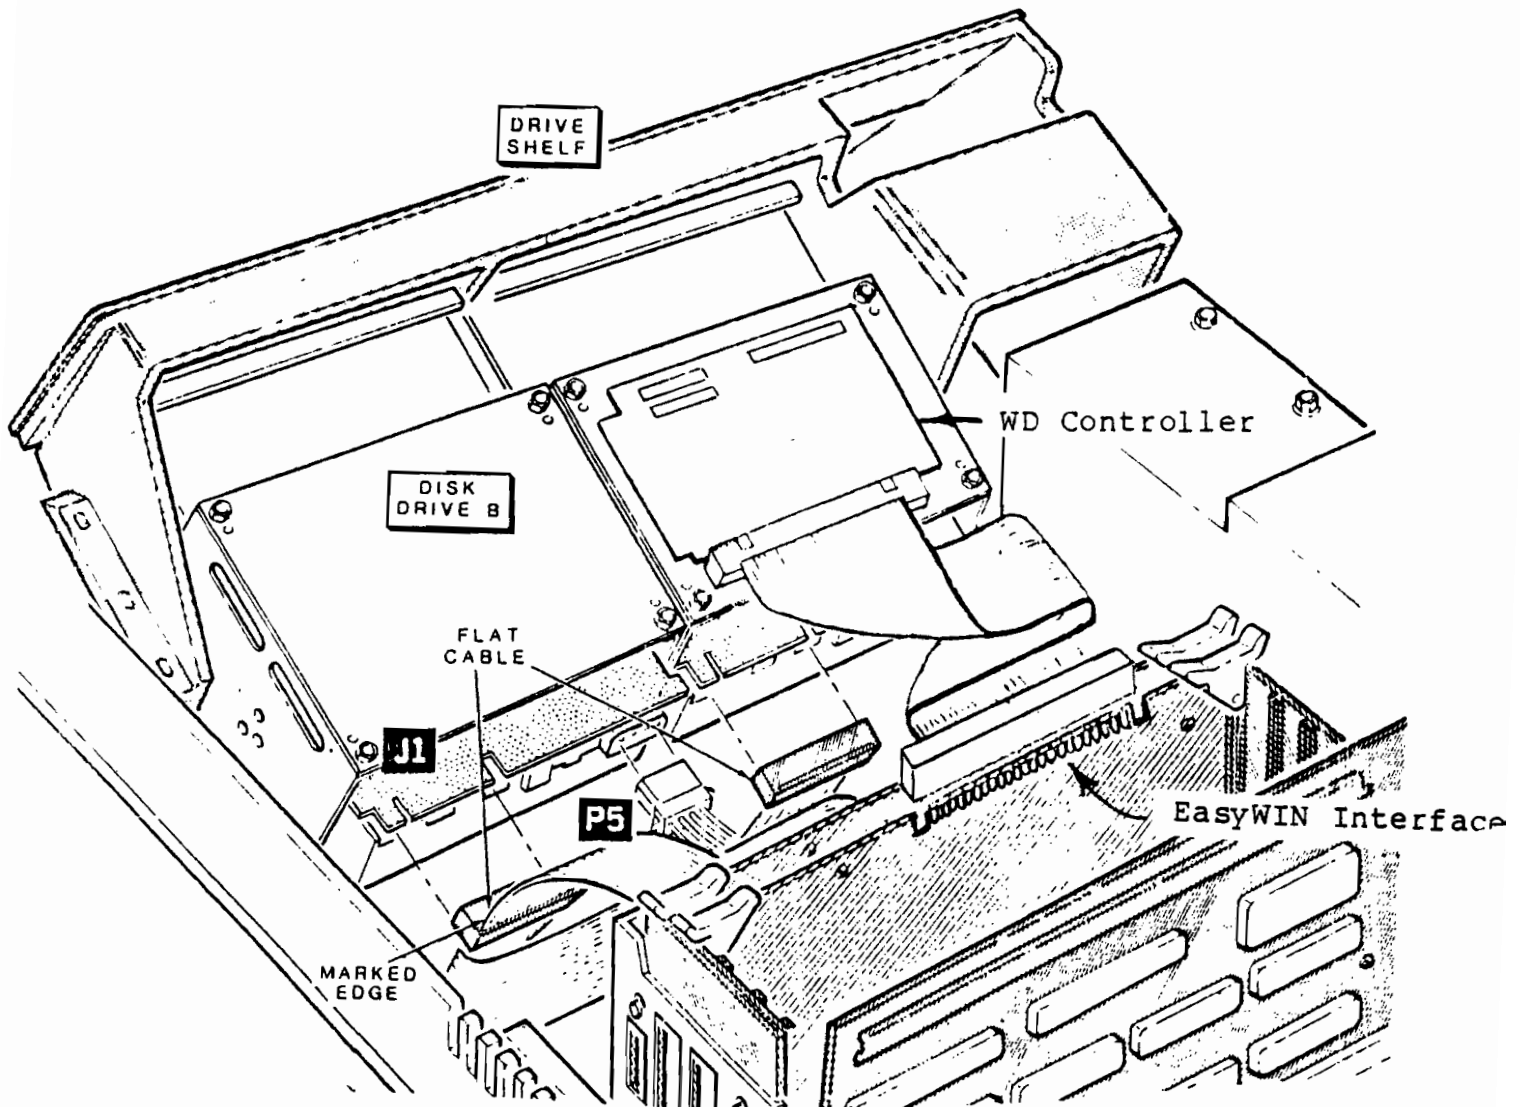

Figure 16
6. Insert the EasyWIN intelligent interface board into a free S-100 slot on the motherboard. Flip the 64 pin edge card cable attached to the WD controller's fingerboard over. Align pin 1 (striped edge) over B1 on fingerboard P2 of the interface board. Press down on the connector firmly until seated. See figure 16.